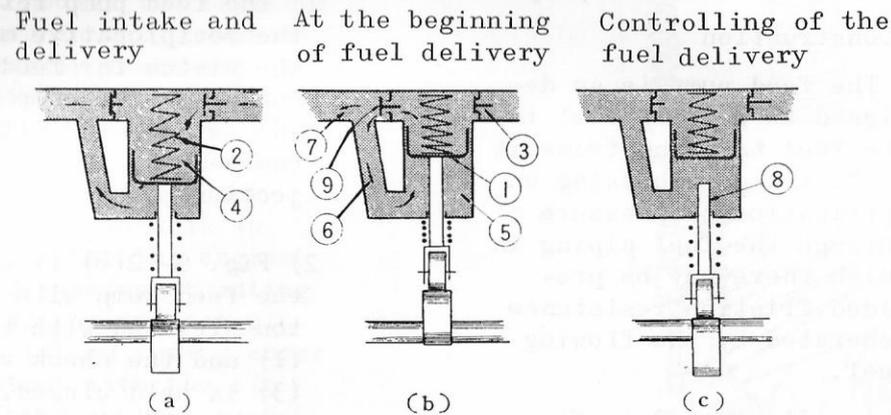

Fig. 9-12
2) Fig. 9-12(b) illustrates the feed pump with the piston elevated with the cam (1) and the check valve (3) is held closed. Through the check valve (9) and the fuel passage (6) the fuel flows into the reservoir (5) permitting the excessive fuel to flow into the injection pump through the fuel delivery port (7).
3) As the cam further rotates and brings the pertinent parts into positions as illustrated in Fig. 9-12(a), the fuel in the reservoir (5) is fed into the injection pump through the passage (6) and fuel delivery port (7) as the piston (1) is urged to travel downward by the piston spring (2) and causes the check valve (9) to close and another check valve (3) to open thereby allowing the fuel to flow into the internal reservoir (4).
4) As the pressure of the fuel delivery increases, the piston is forced to travel upwards against the tensile force of the piston spring (2) as illustrated in
Fig. 9-12(c) and thus, the piston (1) is released from the push rod (8) and gives no fuel delivery in the next stroke of the cam thereby preventing undue increase in the pressure of fuel delivery.